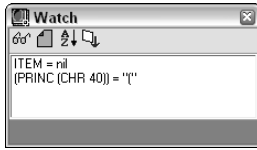

Figure 36-4: The Watch window shows an expression and a variable, and displays their values.
4.  To add a variable to the Watch window, select `item` to the right of the `FOREACH` function and choose Add Watch in the Watch window. The Watch window should look like Figure 36-4.